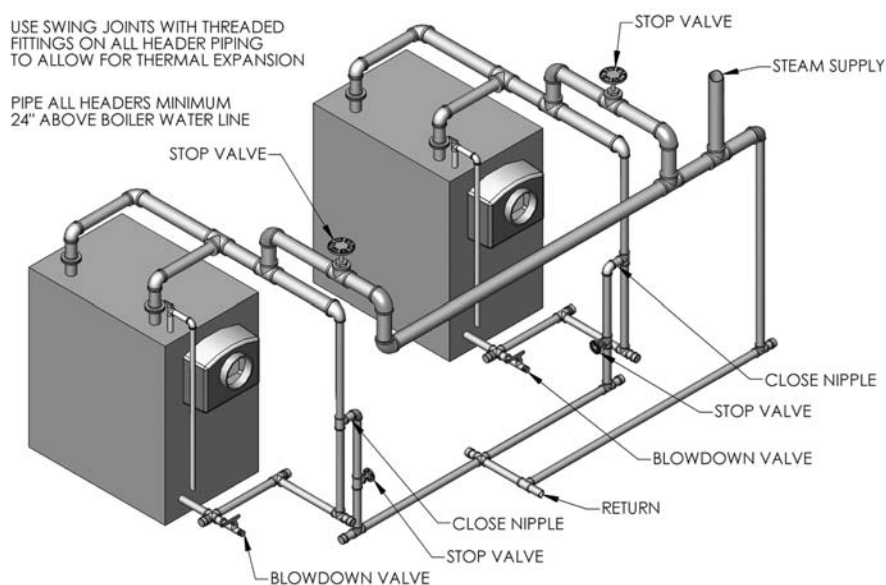

Figure 3.4: Multiple Steam Boiler Piping – Gravity Return
1. Figure 3.4 shows typical piping for multiple steam boiler gravity return systems.